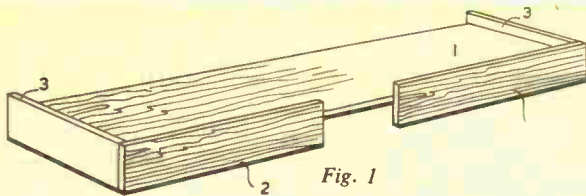

Fig. 1
Start by making up the base (or courtyard) which consists of pieces (1), (2) and (3) which are glued together as shown in Fig. 1.